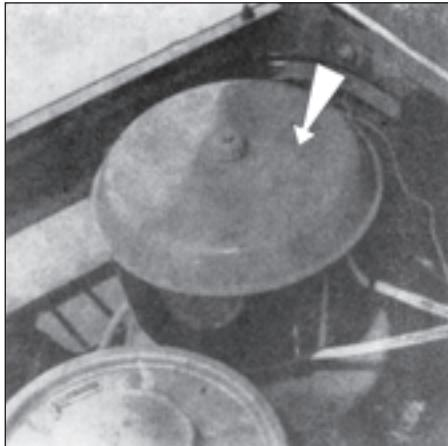
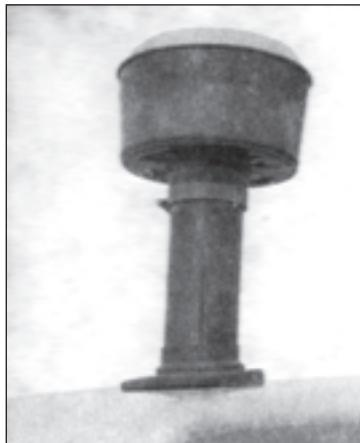

Fig. 182
Fig. 183
1. Check the air-prefilter daily. If the dust bowl is full to the marked level, empty it. To gain the access to the prefilter is quite easy with prefilters fitted above the bonnet (Fig. 183). It will do to unscrew the nut on the cover, to dismantle the prefilter and to empty the dust bowl. If the prefilter is positioned under the bonnet (Fig. 182), it is possible to reach the prefilter after the bonnet cover has been opened, and secured in the open position with a strut which has to be pushed into the hole in the partition wall behind the cooler. The dismantling procedure is then the same.